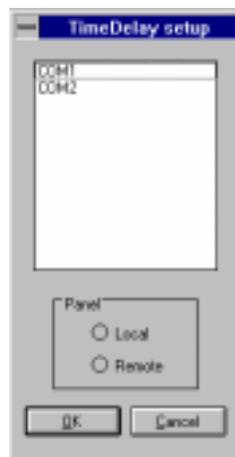

Figure 140. Communication Port dialog box
2. Select **Controller | Comm Port** to access a Controller Setup dialog box. An example of this dialog box is illustrated in Figure 140.